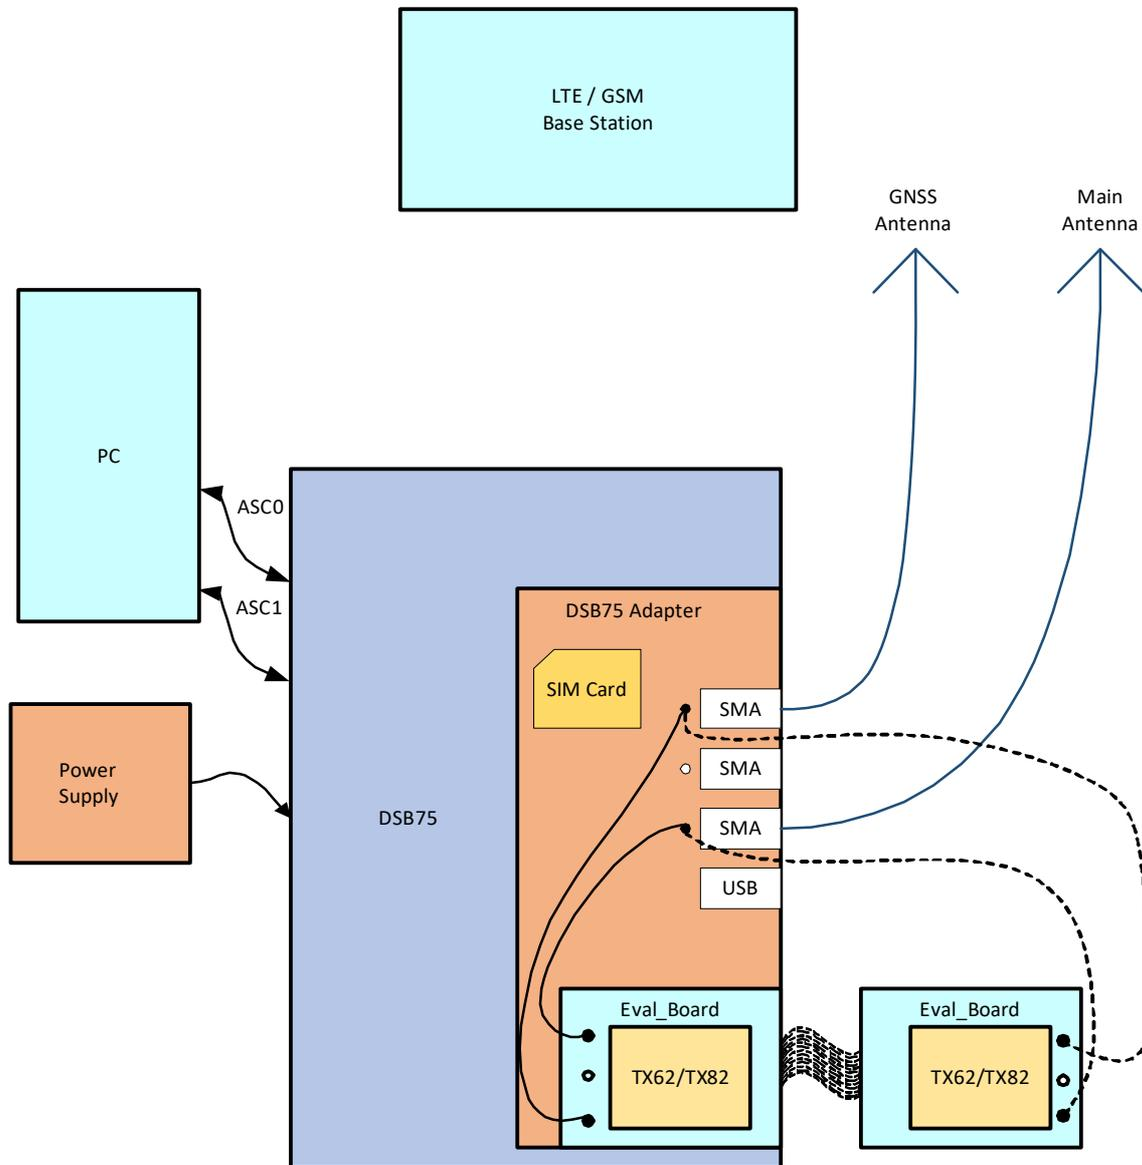

Figure 78: Reference equipment for type approval
- For RF performance tests a mini-SMT/U.FL to SMA adapter with attached 6dB coaxial attenuator is chosen to connect the evaluation module directly to the LTE/GSM/GNSS test equipment instead of employing the SMA antenna connectors on the TX62/TX82-DSB75 adapter as shown in Figure 78. The following products are recommended: